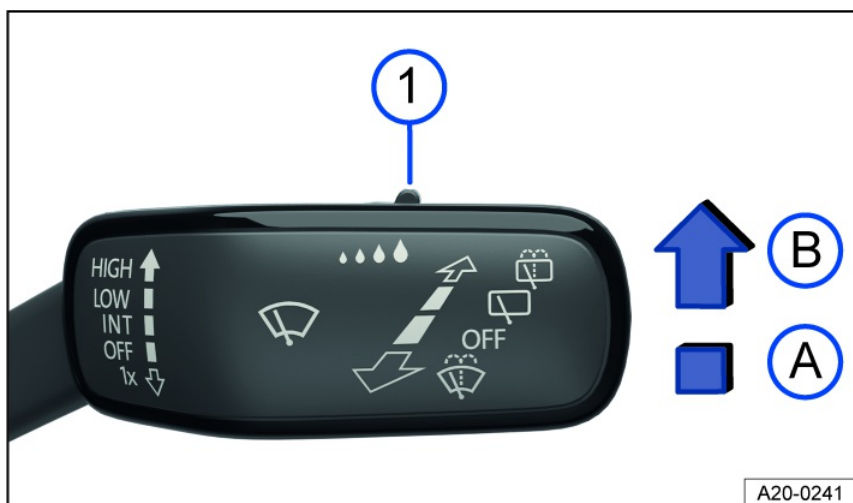

Fig. 77 On the right side of the steering column: windshield wiper lever.
1. Press the lever into the desired position fig. 77.
The sensitivity of the rain/light sensor can be manually adjusted with the switch in the windshield wiper lever fig. 77, ⇒ ⚠.